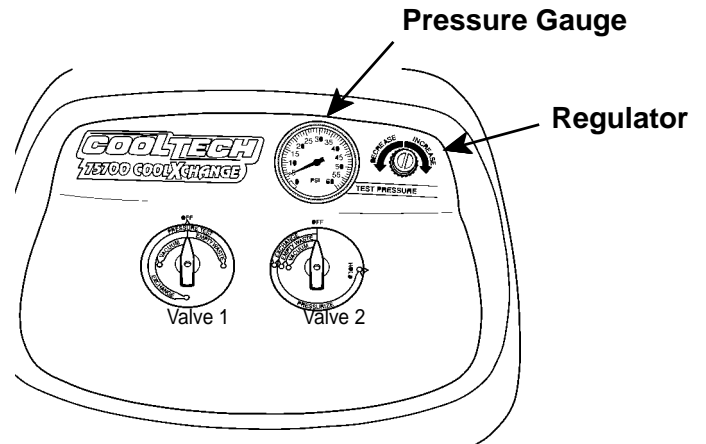

Figure 10
1. Turn the regulator on the 75700 control panel counterclockwise (CCW) to lower the test pressure. See Figure 10.